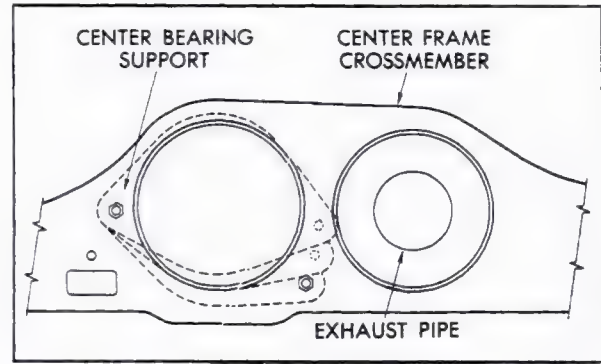

Fig. 4-21 Adjusting Center Bearing Support (698)
2. Remove adjusting bolt and lockwasher from frame center cross member, Fig. 4-21, and loosen pivot bolt. Align center bearing support with center frame cross member as determined from the following table and install bolt and lockwasher. Torque bolts evenly to 16 foot-pounds.